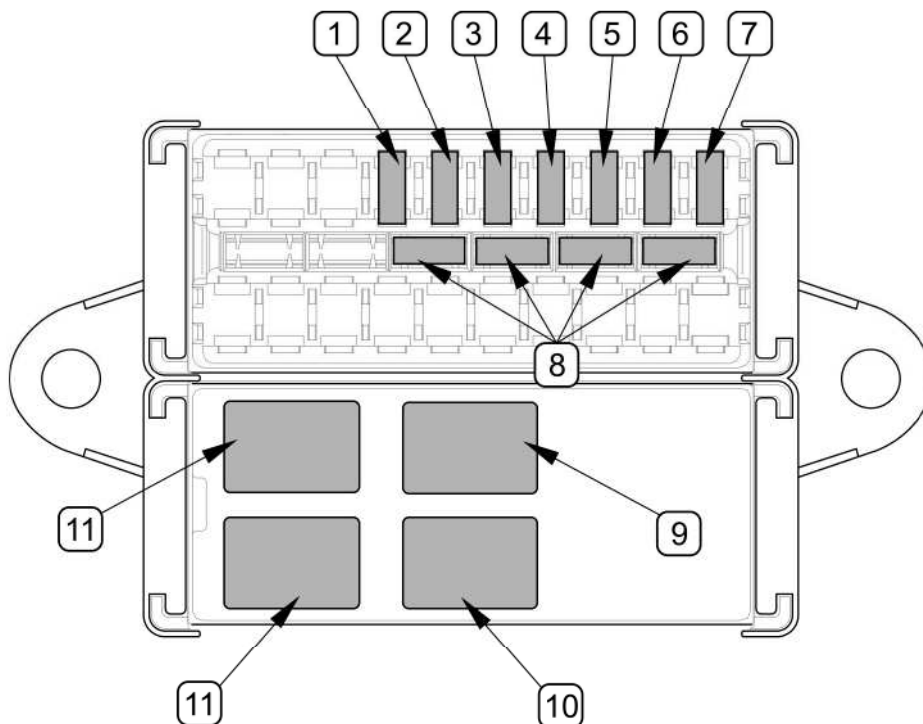

FIG. 5.6 Fuses and relays
In the fuse box, there are four relays (9), (10), (11) (FIG. 5.6) marked with 10/20A 24V symbol, with part number of K2-1103-0011, and MINIVAL fuses (see TAB. 5.3)